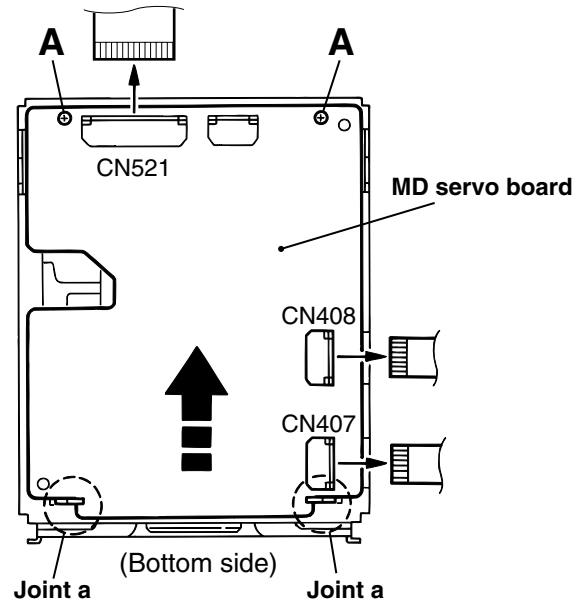

Fig.1
■Removing the MD servo board (See Fig.1 and 2)